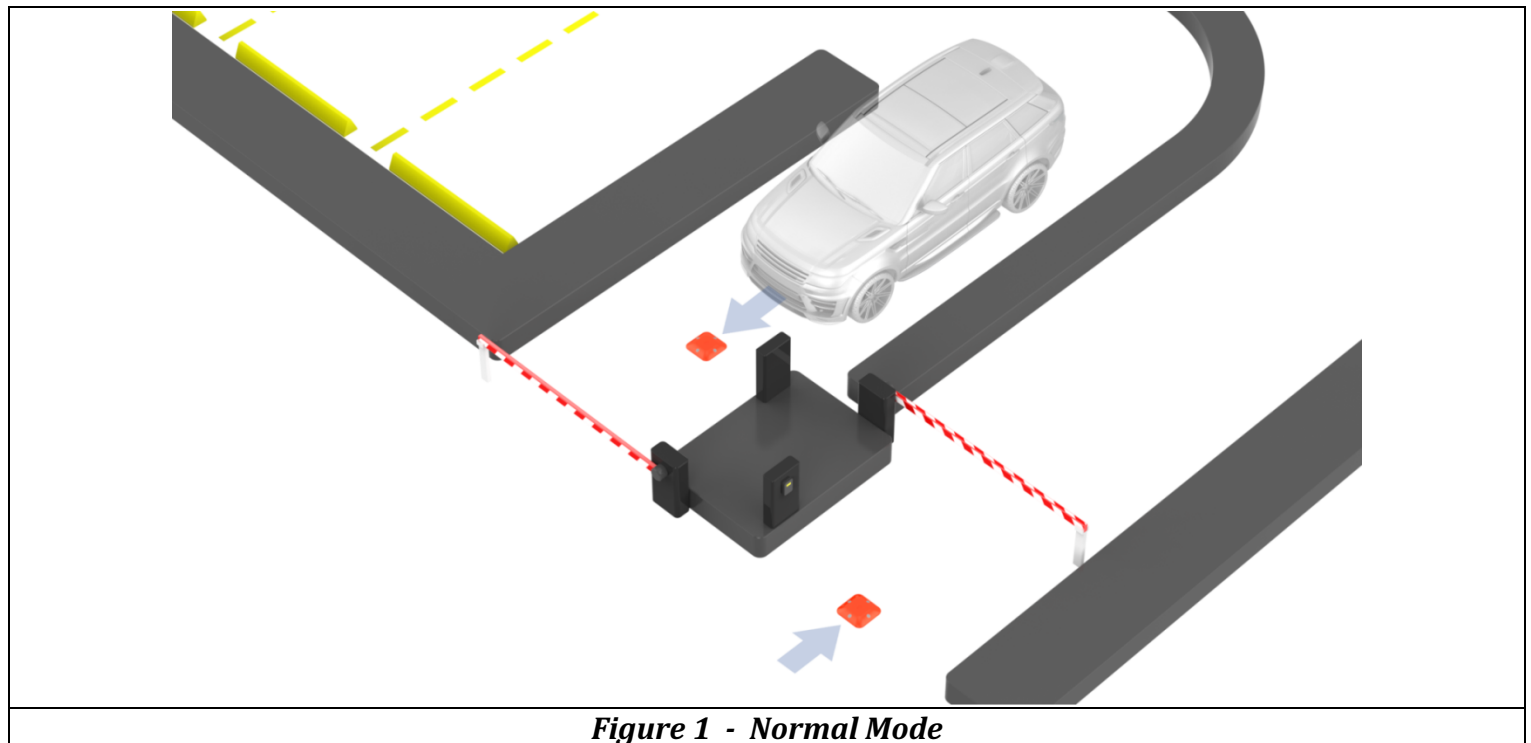
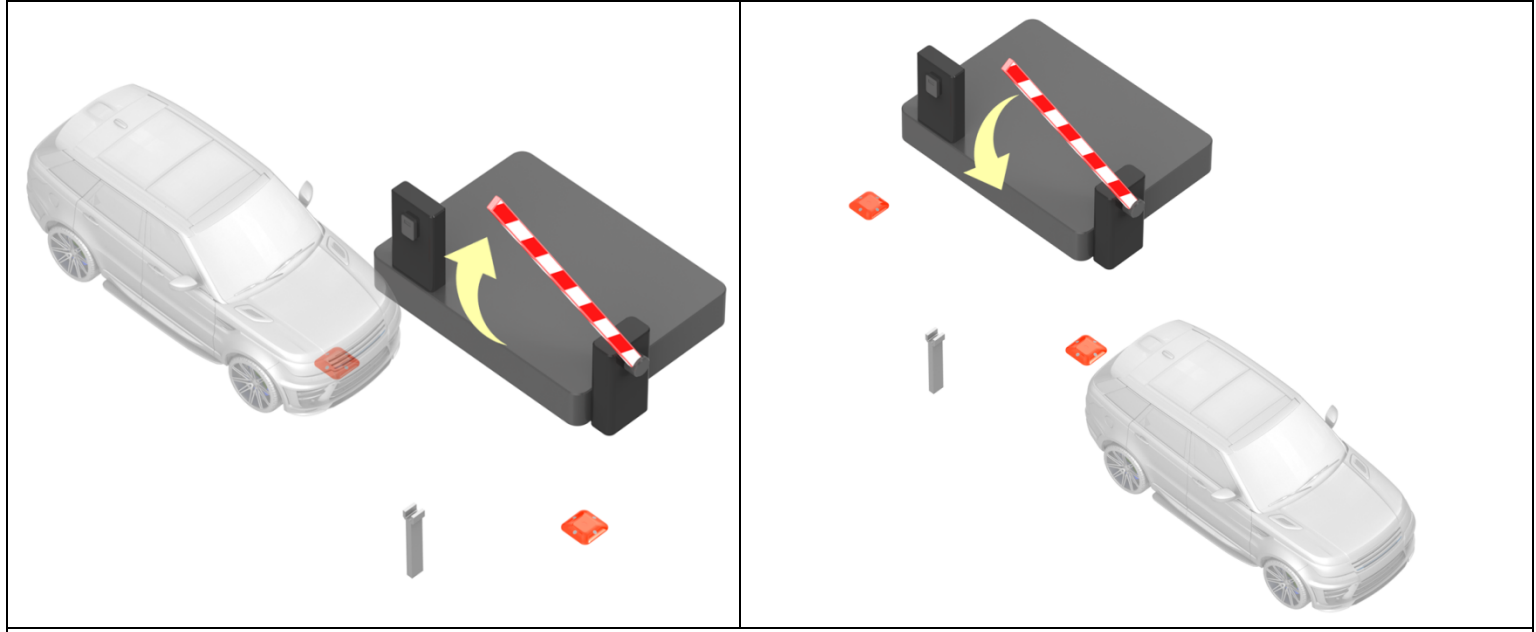

Figure 1 - Normal Mode
Figure 2 - Serial Mode
This menu is used to teach a sensor (TS) to the control card (TC). Firstly, a way is selected and maximum of 2 transmitter sensors can be registered on this way. A total of 8 sensors can be taught in 4 different ways. To activate the learning mode of the control card, first a way is selected, for example **WAY1**, then the sensor is selected (**SENSOR1/OPEN**) and when the control card enters the learning mode; the buzzer on the card will beep for 15 seconds and "**SENSOR DATA WAIT**" will appear on the screen. During this period, if you want to save the sensor as **SENSOR1** to the receiver for the first time, press and release the button on the TS card once. If you have previously taught the sensor to a receiver, this time you need to approach a metal object to the sensor and pull the metal object over it. The sensor will send learning data and when the control card learns this sensor, the buzzer will beep 3-4 times quickly (on/off). This will complete the registration process. You can then continue the process by registering as many sensors as you need. For example, user who wants to use the system in serial mode (Figure 2) by using a second transmitter sensor to be placed on the same way must select **WAY1** again and this time register in the **SENSOR2/CLOSE** section. Thus, the user will be able to use the product in serial mode. However, in the same learning system, user who wants to operate one transmitter sensor at the entrance and the other at the exit (Figure 1) will select **WAY2** after **WAY1** and select **SENSOR3/OPEN** and complete the same teaching process here as well. In this way, a single control card (TC) will be able to control both entrance and exit.
In normal mode, there is only one sensor in the same road, while in serial mode there are two sensors on the road. **Figure 1** shows the normal mode, and **Figure 2** shows the sensor placement in serial mode.